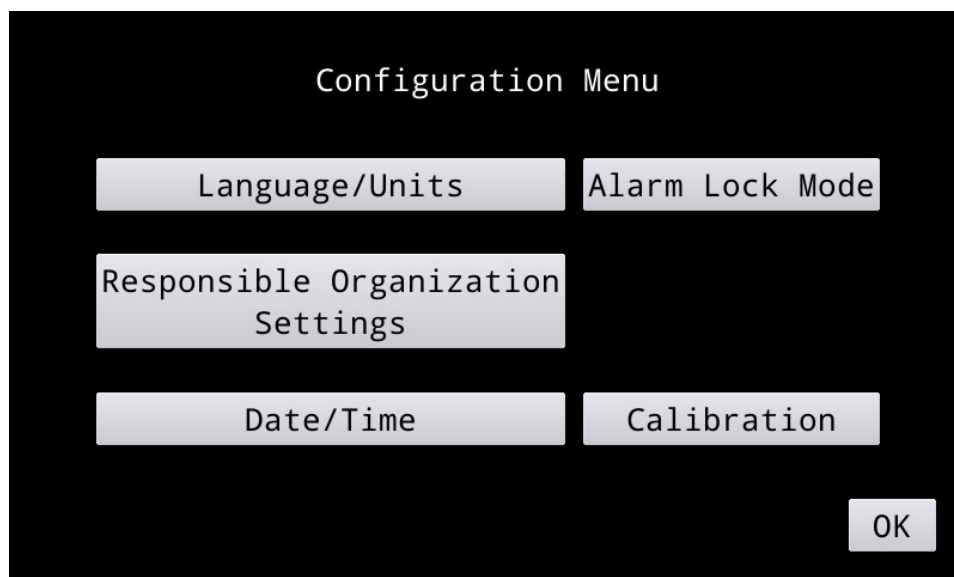

Figure 7. Configuration Menu
4. Configuration Menu (figure 7) displays.